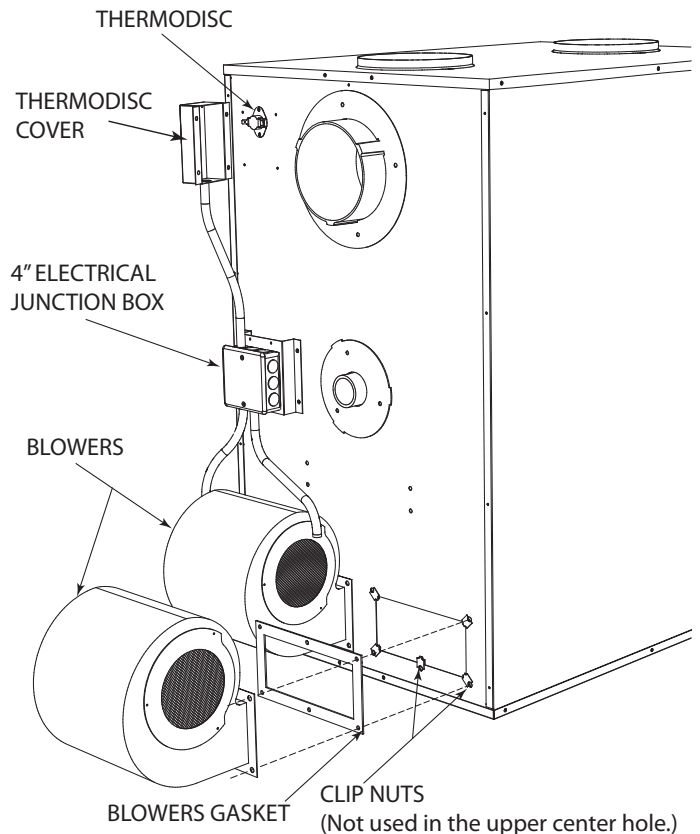

Figure 15
5. Remove blowers from cartons. Remove junction box cover. Attach clip nuts as in Figure 15. Install blower(s) and gasket(s) with 1/4"-20 x 3/4" bolts as shown.